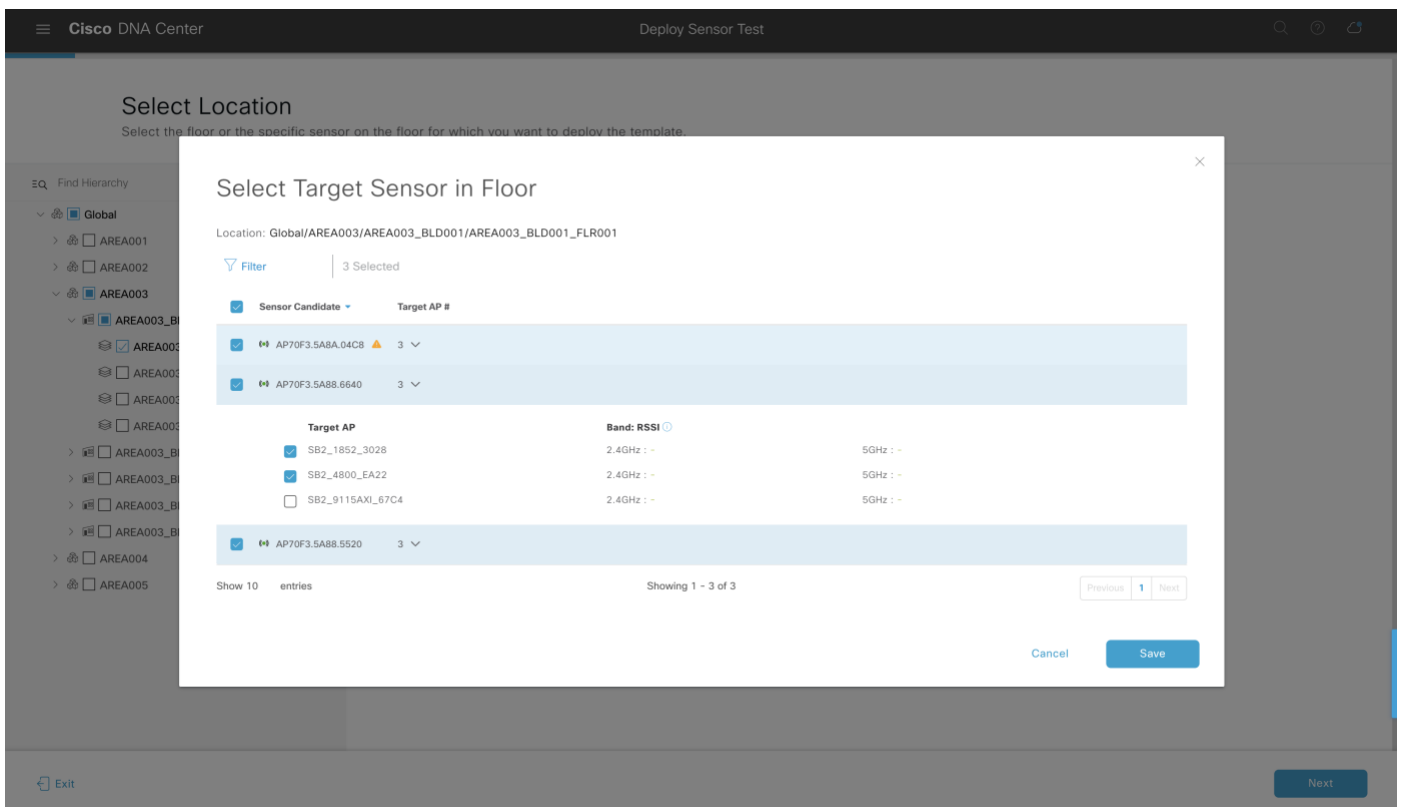

Figure 78.
- w. Selecting the checkbox next to the AP under each sensor will allow you to specify which AP each sensor will target during the test cycle. If none is selected, the sensor will test the number of APs configured within the test template using the RSSI threshold (**Figure 78.**)
- x. Click save, then next to continue the workflow process (**Figure 78.**).